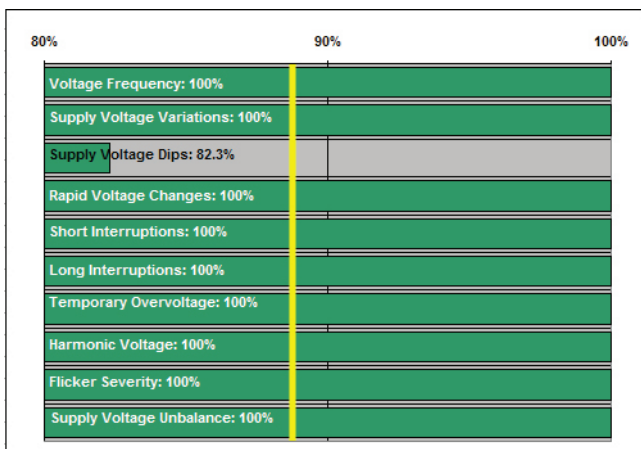

Figure 4: EN 50160 at MCC
Figure 4 shows the EN 50160 results at the MCC (4), where many faults were observed. However, similar faults occur in points 2 and 3 as well, which perfectly comply with EN 50160. The obvious conclusion is that compliance to EN50160 cannot provide the answer to the source of failures, although it indicates existence of voltage dips in one location.